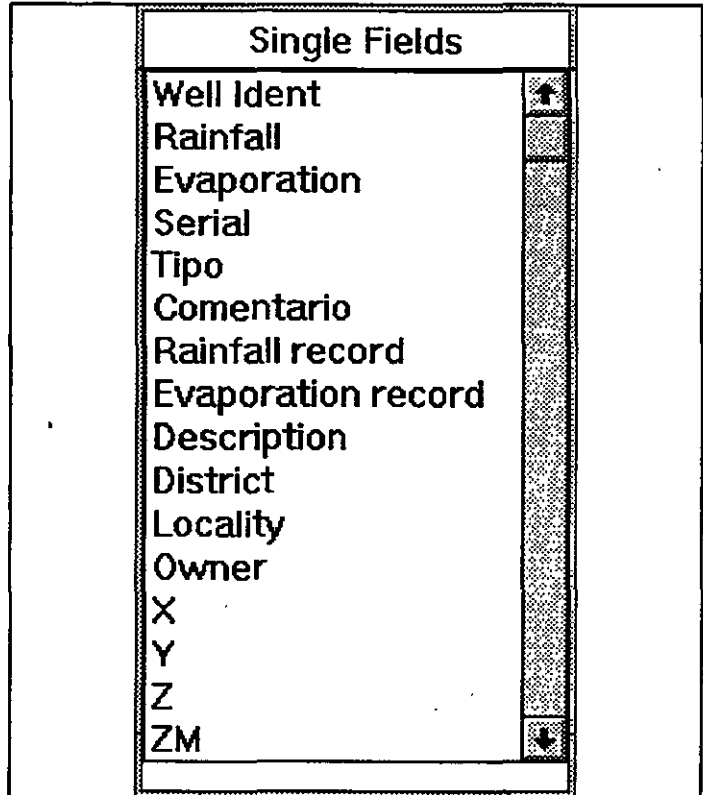

Figure 18-8
- Now you may create a new entry form using any of data fields displayed in the left-side window. The single fields are shown in Figure 18-8. The creation of entry forms is explained in details in Chapter 3.